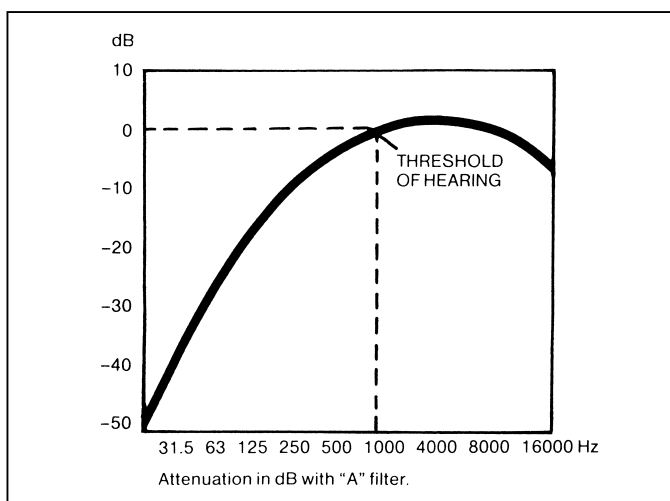

Fig. F16 Attenuation in dB with 'A' Filter
The decibel rating of a given sound indicates the level of sound pressure or intensity at which it lies. The threshold of hearing (Fig. F16) at a frequency of 1000 Hz gives the starting point of 0 dB, and the threshold of pain is reached somewhere between 120 and 130 dB.
Scales for dB(A) levels and the eight frequency levels (as in Fig. F16) are the accepted international standards for noise measurement. The NR ratings on the RH side of the diagram, however, are 'values of annoyance'. The accompanying table gives an indication of possible results using this method.